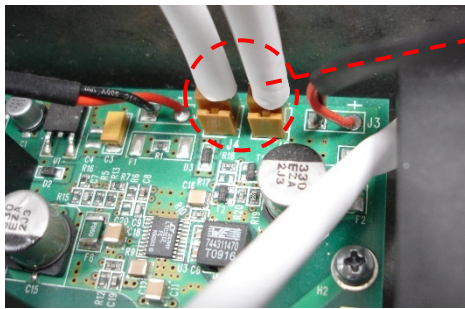

Fig. 6:
- For version **with power supply**: If applicable, disconnect the modem backup batteries from the power supply (see Fig. 6: above)